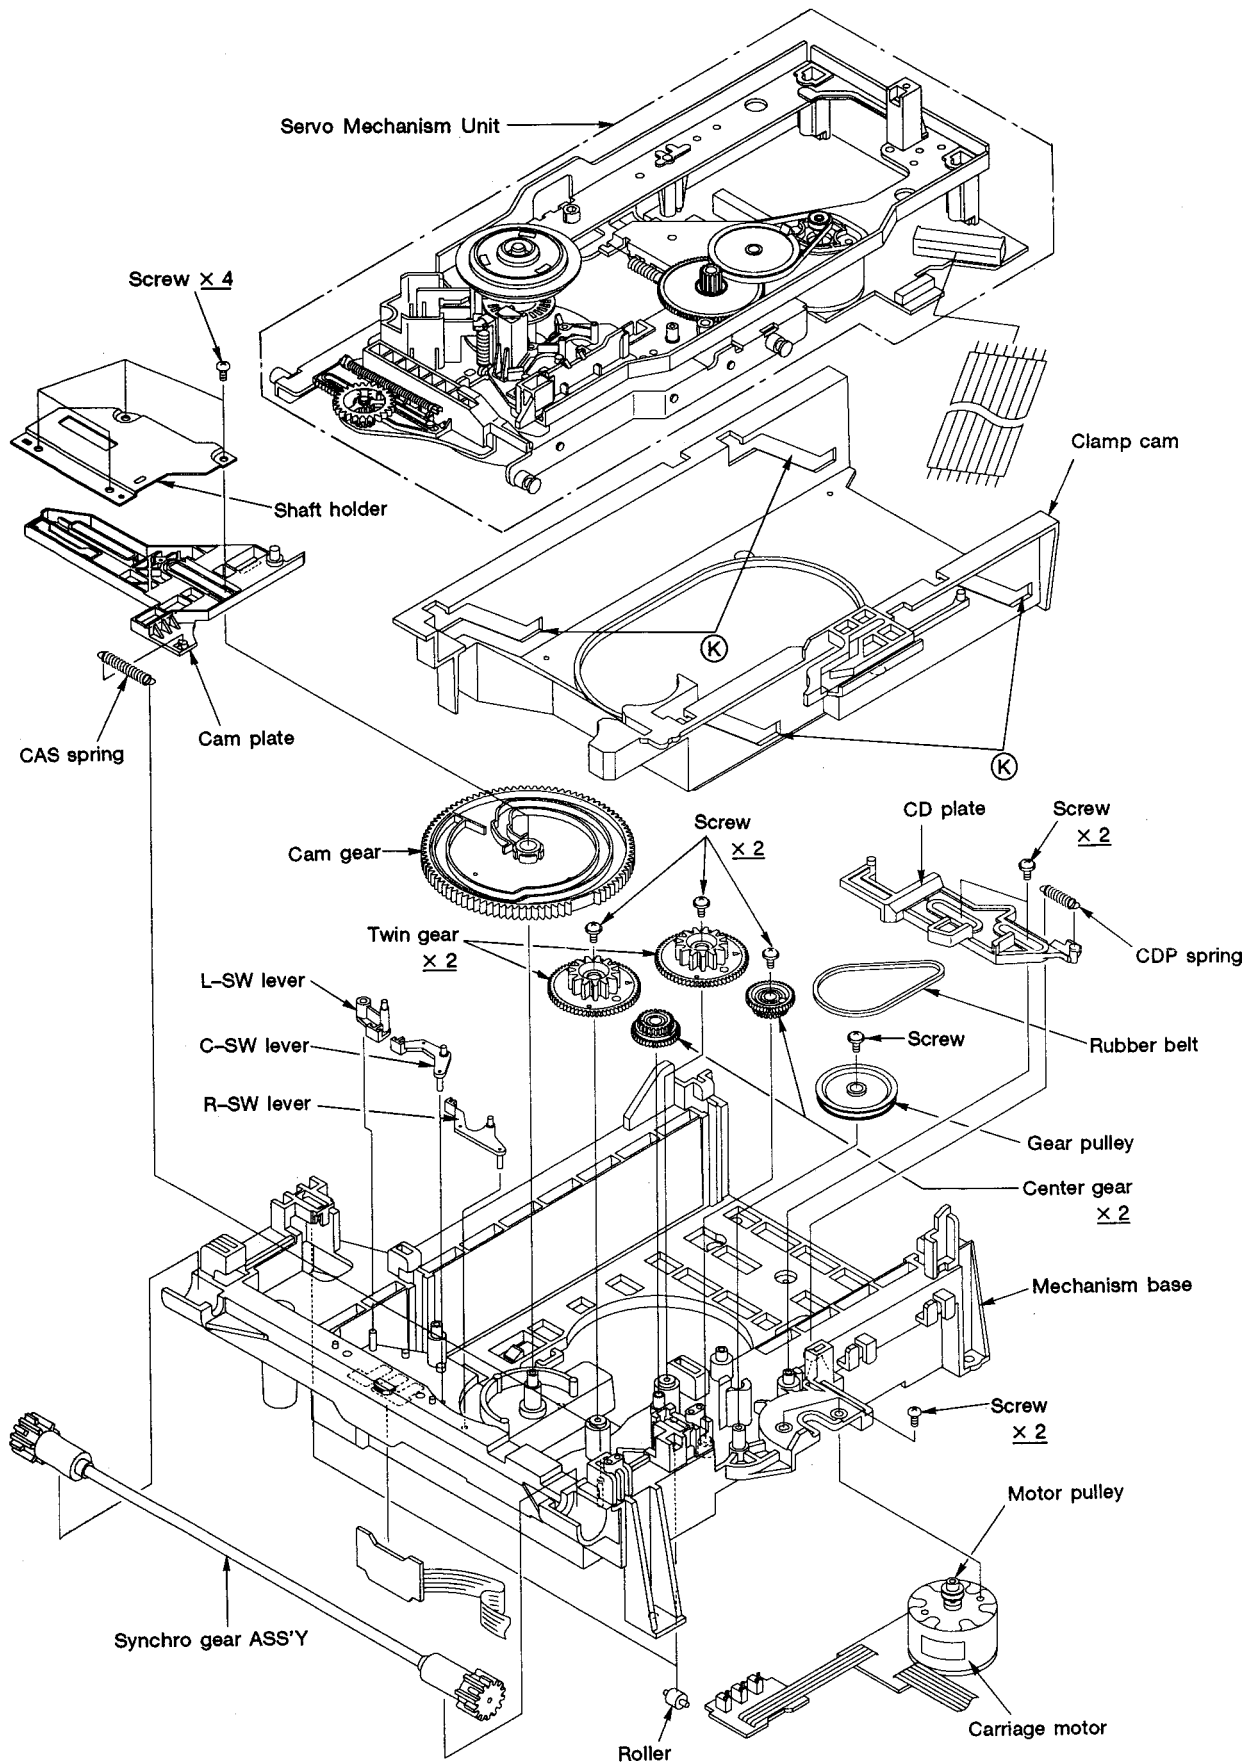
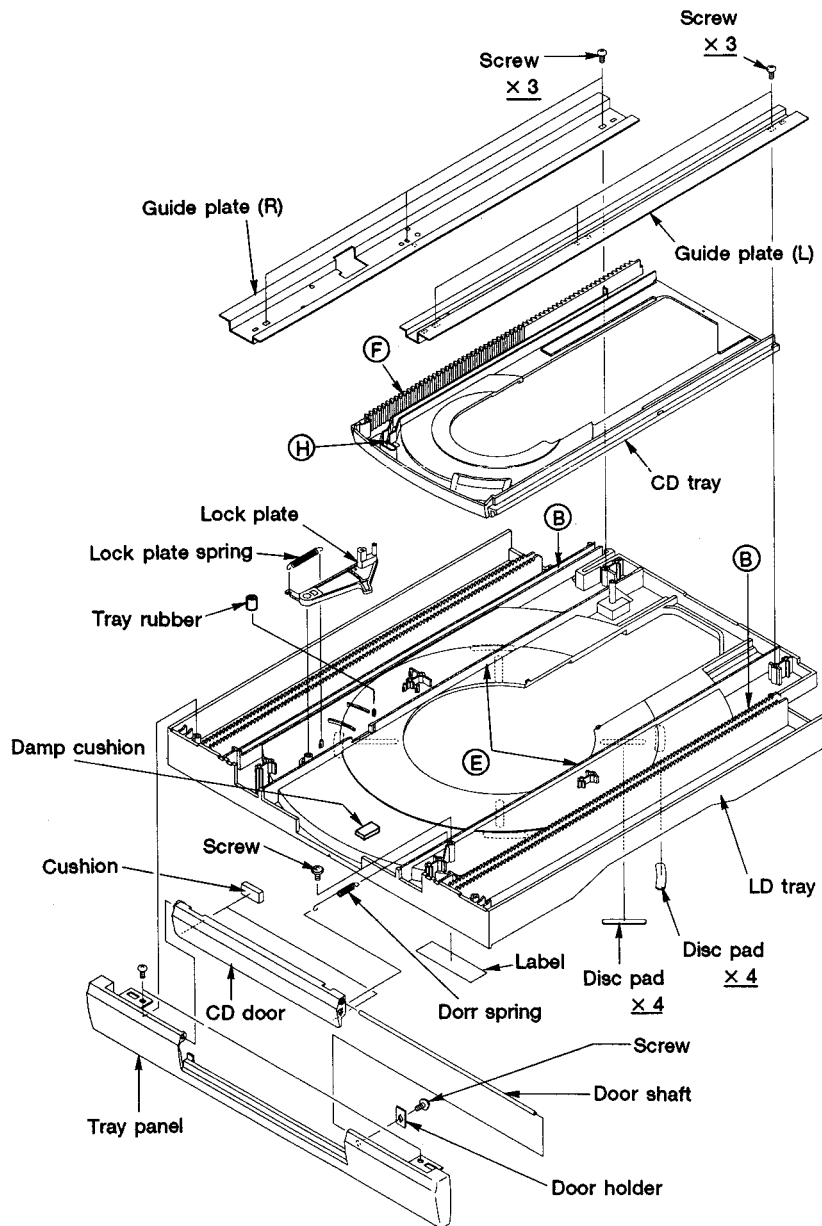
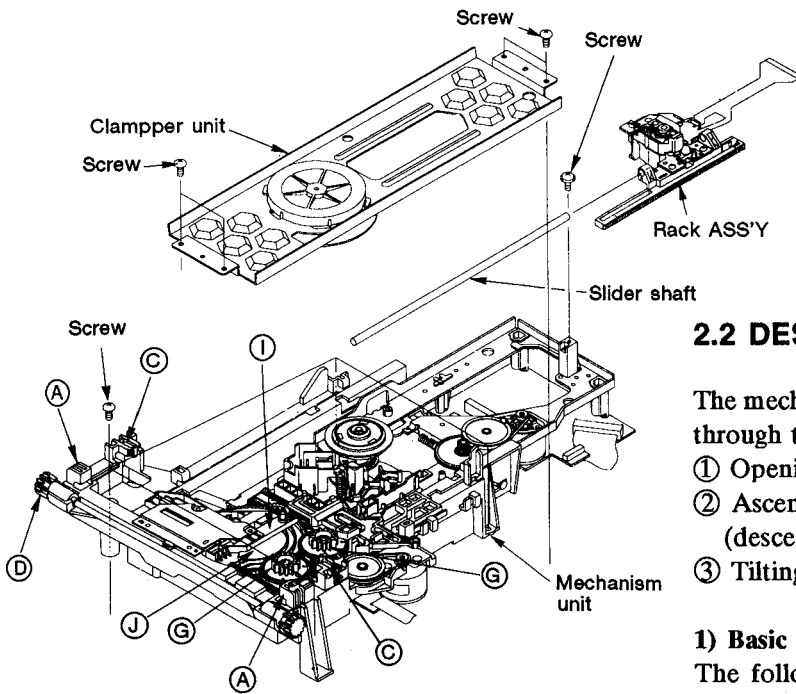
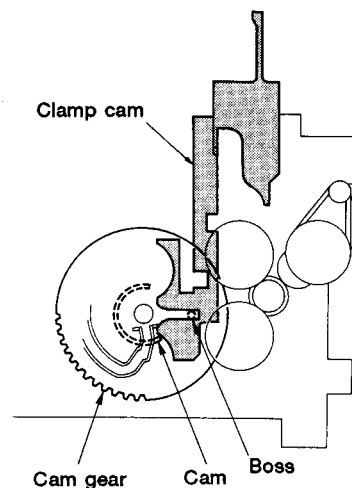

Fig. 2-2 Loading Mechanism unit
Fig. 2-4 Tray unit (Bottom view)
Fig. 2-5 Mechanical unit
Fig. 2-7
- ① Loading mechanism unit (Fig. 2-2)
- ③ Tray unit (Fig. 2-4)
① Loading Mechanism Unit (Refer to Fig. 2-2)
By attaching the servo-mechanism unit and tray unit to the loading mechanism unit, the operations of the mechanism are completed without using the casing and other supporting components (Fig. 2-2) (excluding the operations of the clamper unit and clamp).
③ Tray Unit (Refer to Fig. 2-4 and Fig. 2-5)
As a support system to the tray unit, two protruding portions ① (Fig. 2-5) are located on the front, left of the mechanism base, and a cam groove ② (Fig. 2-4) is located on the bottom side for the left/right movements
of the LD tray. Rollers ③ (Fig. 2-5) are located on the left and right of the mechanism base, and a synchro gear assembly ④ exists for the up/down movements of the LD tray. The synchro gear assembly ensures left/right synchronization. As for the CD tray, a protruding rib ⑤ (Fig. 2-4) is located on the bottom side of the LD tray for the left/right movements, while guide plates are located on the left and right of the rib for the up/down movements.
① Loading the Tray
While the rack gear ⑥ (Fig. 2-4) and twin gear ⑦ (Fig. 2-5) the bottom side of the CD tray are engaged, the cam gear ⑩ is engaged with the twin gear ⑦ by moving the cam plate ① through the cam ⑧ (Fig.2-4) on the bottom side of the CD tray. (The rack gear on the bottom side of the CD tray is separated from the twin gear.)
② Ascending of the Servo-Mechanism Unit
The clamp cam is moved towards the rear by engaging the cam and boss on the back side of the cam gear to the clamp cam (Fig. 2-7). The servo-mechanism assembly ascends through the cam ⑫ (Fig. 2-2) on the clamp cam.